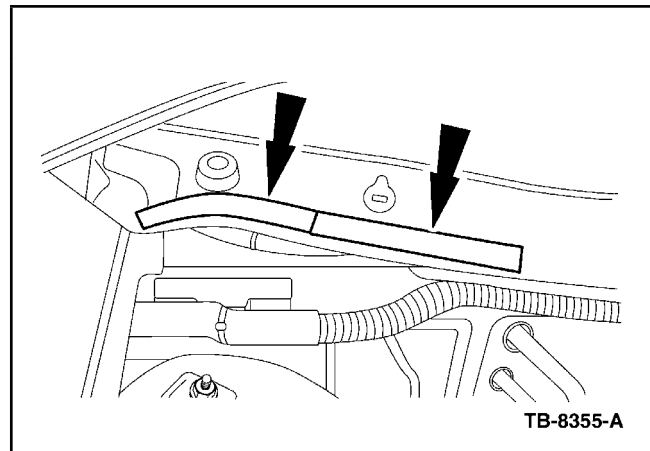

Figure 7 - Article 05-23-7
12. Place the other two cut pieces of the PVC soft foam adhesive stripes on the metal body surface over the PCM area. The two ends need to touch, do not allow any gap between the two ends (Figure 7).